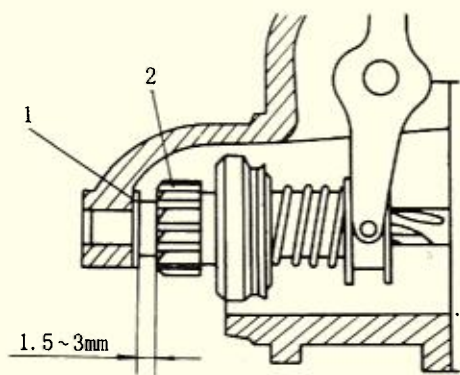
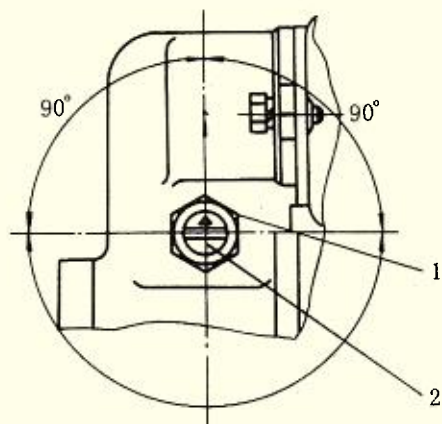

Fig. 19-5 Check and adjustment of overrunning clutch gear and thrust washer
Fig. 19-6 Adjustment of eccentric screw
4. Regularly check and adjust the clearance between the overrunning clutch gear and the thrust washer. Move the gear outward and the clearance between the end face of the gear 2 and the thrust washer 1 should be 1.5~3.0 mm (as shown in Fig. 19-5), otherwise, it should be adjusted. Usually it would be best if the mark of the head of the eccentric screw (▲ or ●) is at the position shown in Fig. 19-6 and it can also turn in the range of 90° leftward and rightward each. If the clearance is too small, the mark should be placed toward the front of the tractor, and conversely, it should be placed toward the back.